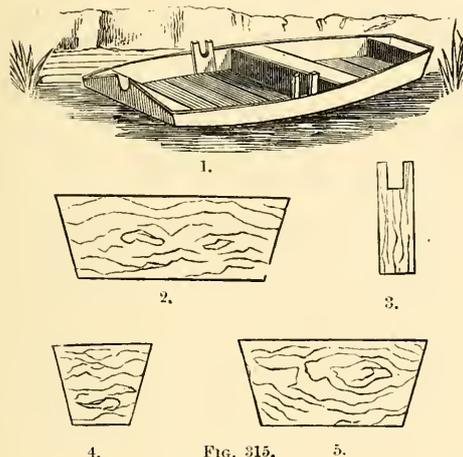

FIG. 315.
**Punt Building.**—The following are directions for building a fishing punt as shown by Fig. 315:—Take for the sides two 1in. planks